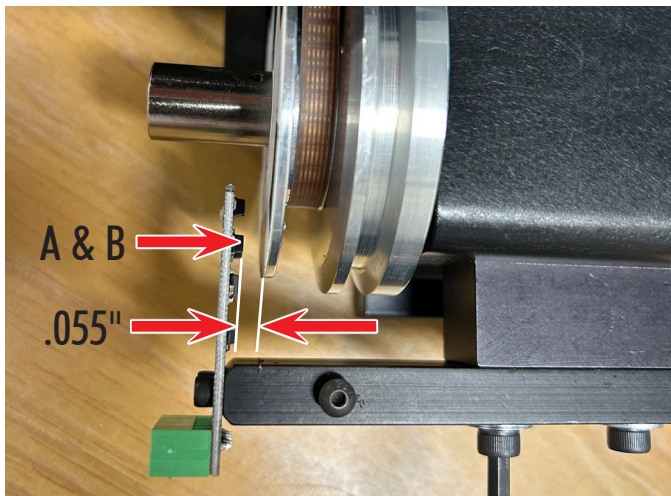
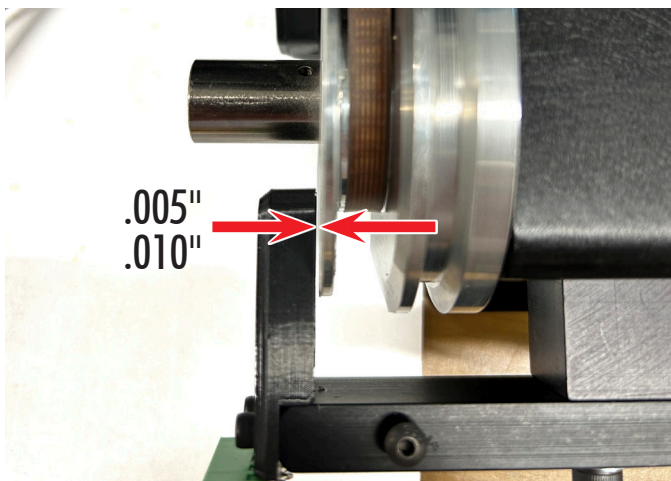
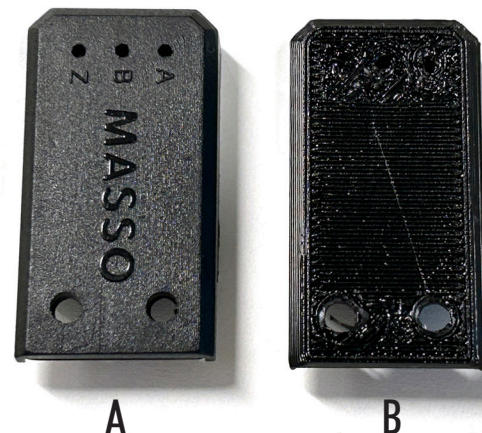
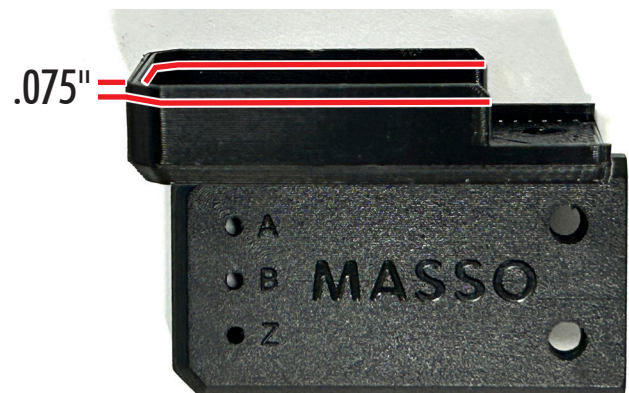

FIGURE 1—Showing .055" gap between the tach sticker and the A & B LEDs.
FIGURE 2—Showing the .005"-.010" gap between the MASSO encoder cover and the tach sticker.
FIGURE 4—Showing the difference between the MASSO injection-molded cover (A) and the original 3D-printed cover (B).
FIGURE 5—The red lines show where to trim the .075" off of the 3D-printed cover. The 3D-printed cover has been turned on its side to show where to trim.
2. The encoder gap is .055" from the tach sticker to the encoder A & B readers on the bottom of the encoder (see Figure 1), or .005"-.010" between the tach sticker and the bottom of the encoder cover (see Figure 2).
5. If you have the new MASSO injection-molded optical encoder cover, no further modifications are necessary (see Figure 4). If, however, you have an older 3D-printed optical encoder cover, you will have to trim .075" from the bottom of the 3D-printed cover (see Figure 5). This is to ensure the proper gap of .005"-.010" between the cover and the tach sticker shown in Figure 2.